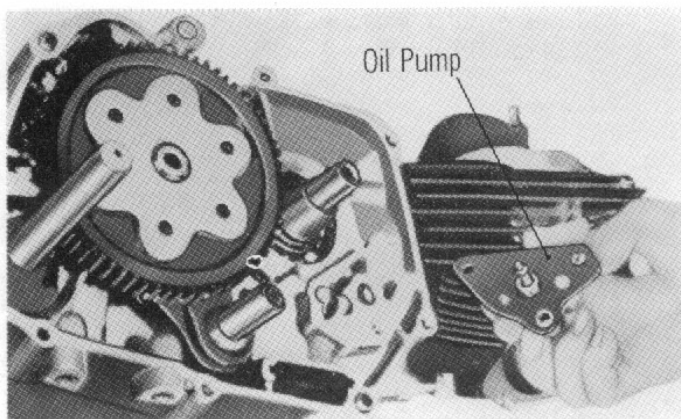

Fig. 9
5. Loosen the three cross screws attaching the oil pump cover, the oil pump can then be disassembled (Fig. 9).